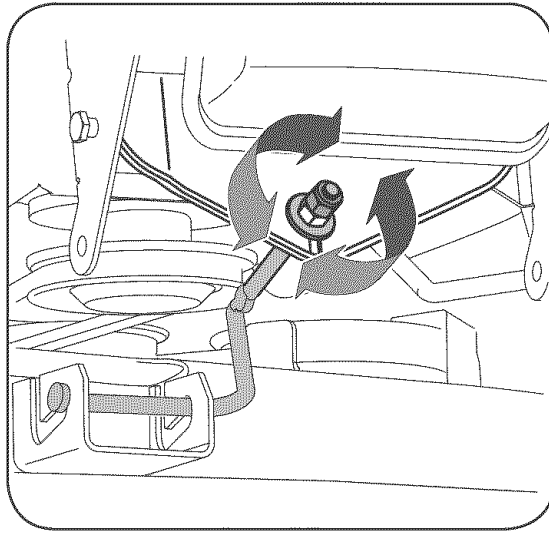

Figure 11
4. Locate the lock nut on the front side of the stabilizer bracket. See Figure 11. Tighten the lock nut to raise the front of the deck; loosen the lock nut to lower the front of the deck.